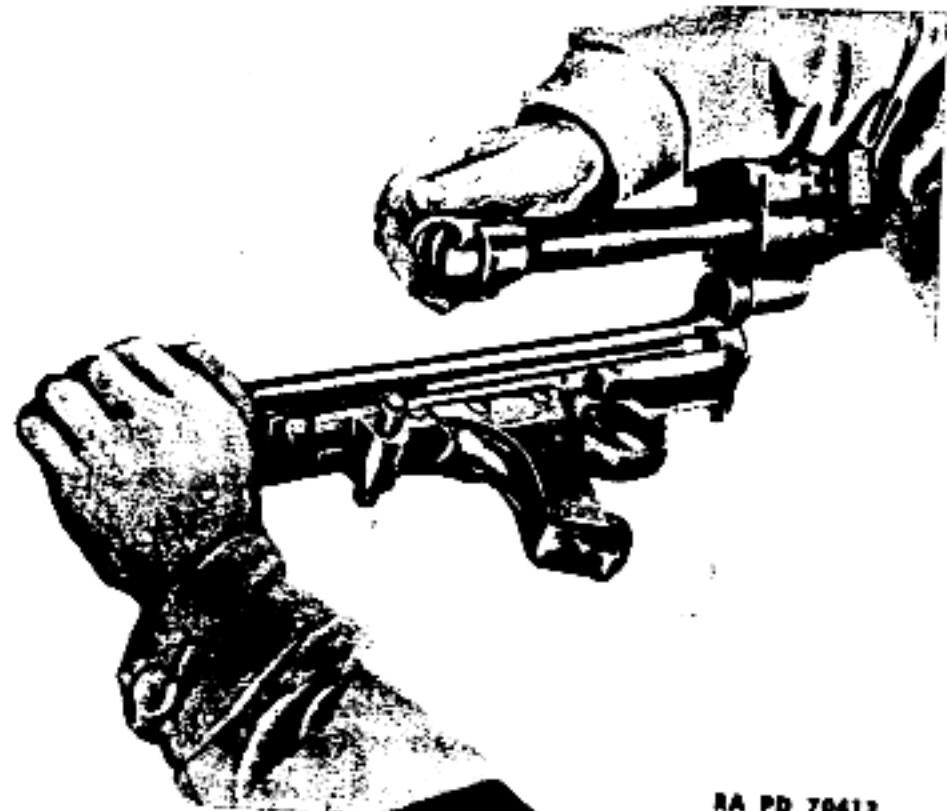

Figure 51 — Removal of Barrel
e. Removal of Barrel. Depress the receiver catch (fig. 39), rotate the body about 180 degrees, and remove the barrel (fig. 51).